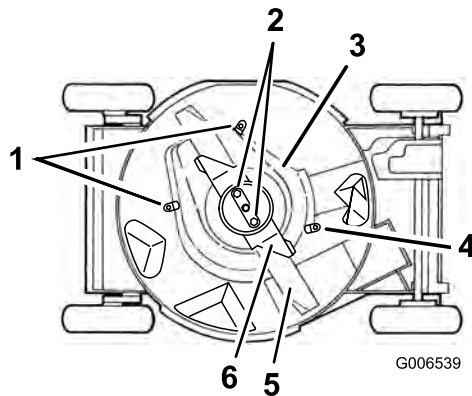

Figure 38
6. Loosen the tabs that secure the blade brake clutch shield to the housing by loosening the nuts or the bolts on the tabs (Figure 38). Rotate the tabs 180° to move them out of the way.